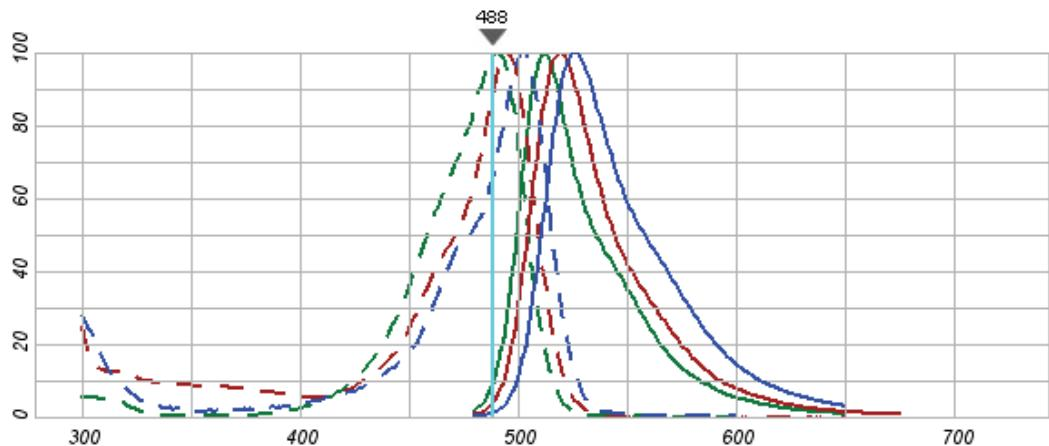

Figure 4. Overlapping Excitation and Emission Spectra
There are three points to note in the graph shown in Figure 4.
In other words, as illustrated in Figure 4, multispectral analysis yields (1) an autofluorescence image, (2) a MitoTracker Image, (3) a Acridine Orange image, and (4) a FITC image. By removing the autofluorescence contribution to the image, the actual signals from the applied labels (MitoTracker, Acridine Orange and FITC) can be readily seen. If these individual images are recombined using highly contrasting colors to represent the location of each of the labels, a composite image of high contrast and readily observable colors can be generated.